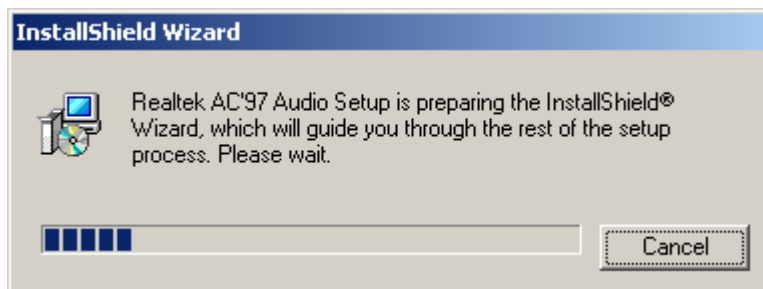

Figure 6-2: Audio Driver Install Shield Wizard Starting
Step 2: The **Realtek AC'97 Audio Setup** prepares the **InstallShield Wizard** (Figure 6-2).